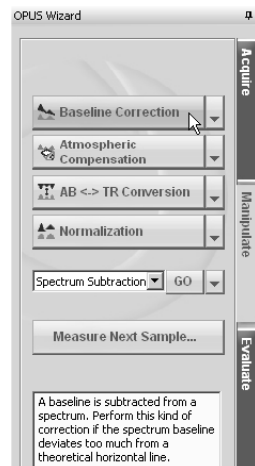

Figure 40: OPUS Wizard - Performing a Baseline Correction
- 2 Click in the OPUS Wizard on the *Baseline Correction* button (see figure 40).